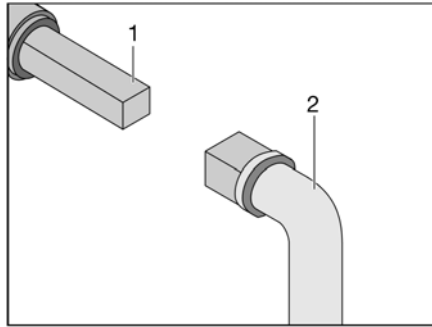

Fig. 339 Operation of the waste water tap
- Place key (Fig. 339,2) onto the square bolt (Fig. 339,1).